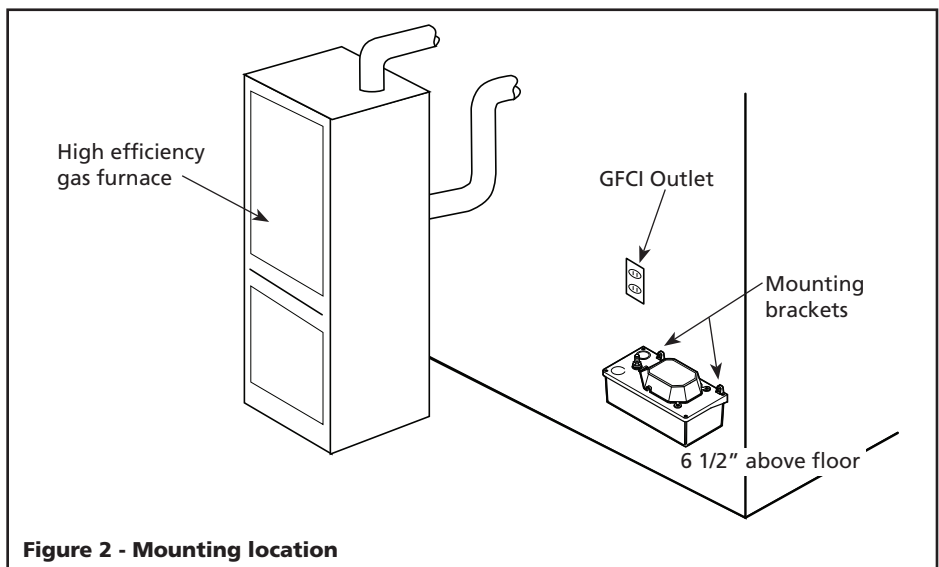

Figure 2 - Mounting location
11. This equipment is only for use on 120 volt (single-phase) and is equipped with an approved 3-conductor cord and 3-prong, grounding-type plug as shown in Figure 2.
- B. The pump can be installed to the wall or side of the appliance using the two mounting brackets. Refer to Figure 2.